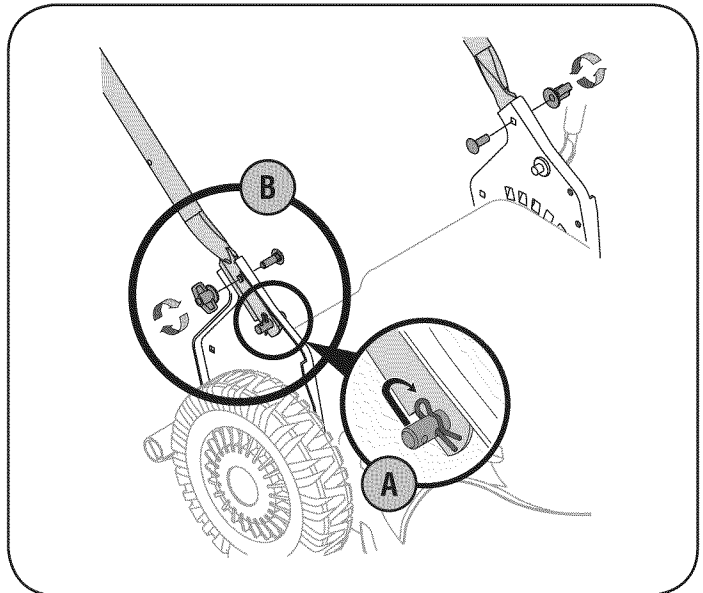

Figure 2
- a. Remove hairpin clip from this hole. Using a pair of pliers, insert hairpin clip into the hole on pin closest to the bracket. See Figure 2. Repeat on other side.